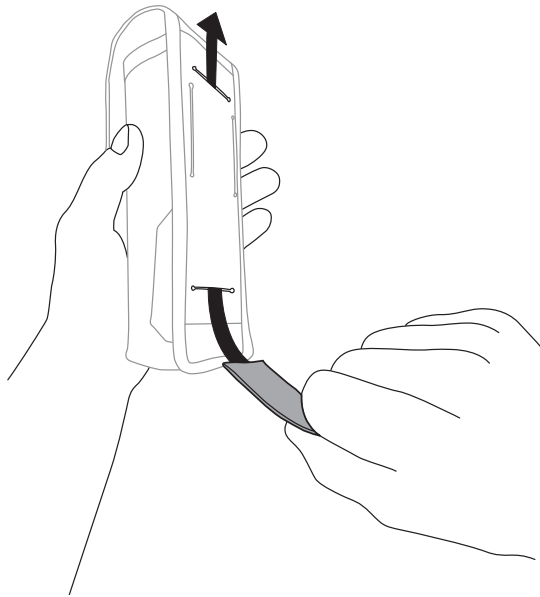

Fig. 31i
- ix. If the task light is going to be used with a supplied airline system (**NOT** a 3M™ Adflo™ PAPR) a battery pouch to hold the 3M™ Adflo™ Li-ion Battery will need to be attached to the user's belt. Thread the belt through the battery pouch in either the horizontal or vertical orientation. If vertically oriented, make sure the pouch opens in the upward position (Fig. 31i or 31j).